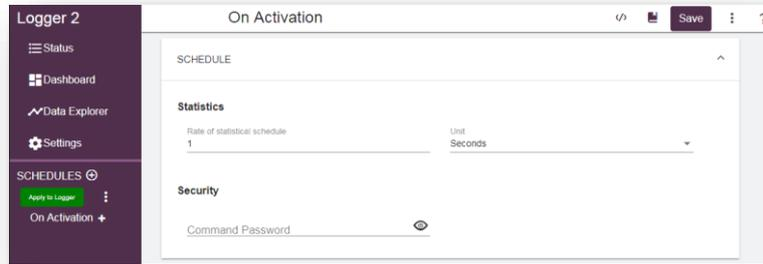
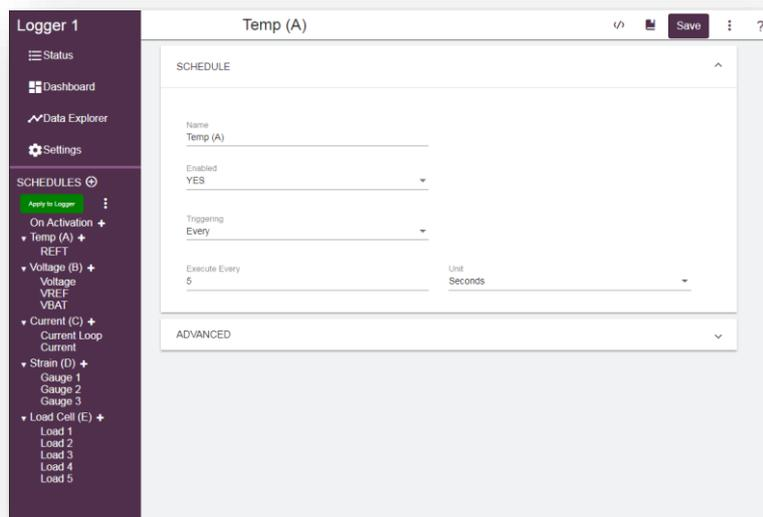

Figure 28: Fresh dEX Programming Template
Figure 29: dataTaker Program Example in dEX NG
Job Builder is located within *Logger Page(s)* (P9), after *Settings* (P10) menu. If the logger is being programmed for the first time, that interface will show the existing program template stored by dEX NG. If there is no stored template, it will show On Activation (Figure 28 (P25)). Otherwise dEX NG will show the existing program (Figure 29 (P25)).
- The top level there are the schedules, In *Figure 29* six schedules have been defined: the built-in **On Activation** entry represents the immediate schedule, and is followed by five user schedules, A, B, C, D and E (a.k.a "Temp", "Voltage", "Current", "Strain" and "Load Cell").